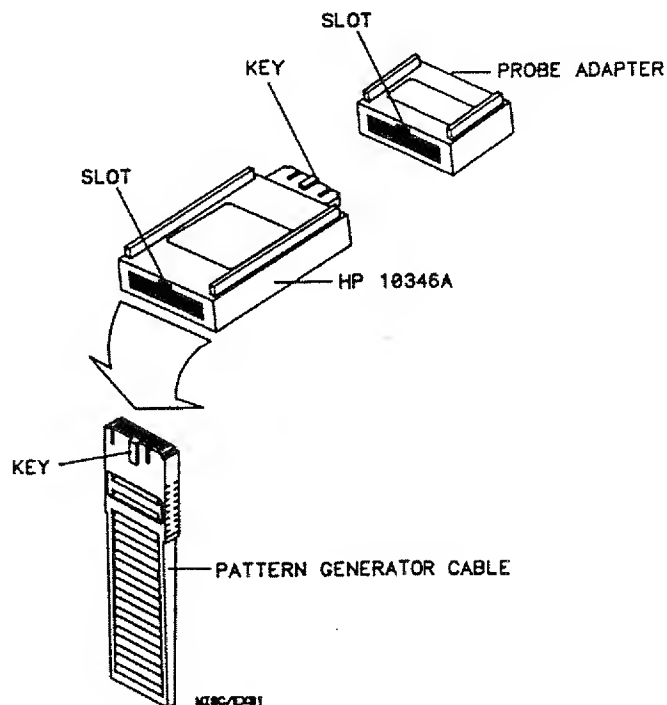

Figure 2. Connecting the HP 10346A Pod to the Cable Connector
2. Connect the HP 10346A pod to the pattern generator by aligning the key on the connector from the pattern generator cable with the slot on the pod connector and pushing them together (see figure 2).
3. If a probe adapter is required, connect the HP 10346A pod to the probe adapter of the pattern generator by aligning the key on the connector of HP 10346A pod with the slot on the probe adapter connector and pushing them together (see figure 2).